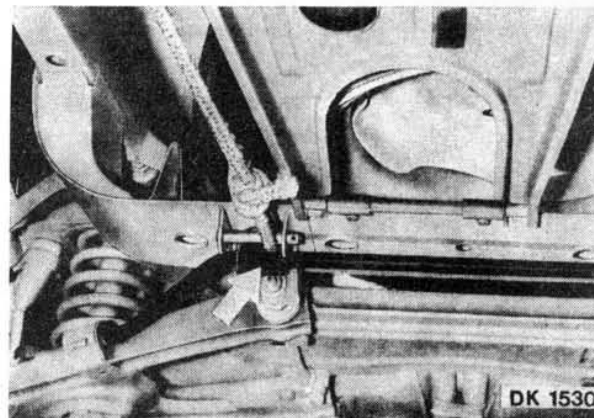

Fig. 1.4/3 Hooking of Towing Rope
**Lifting the car with a power jack** - When using a service power jack, let the car rest on the points shown in Fig. 1.4/2.